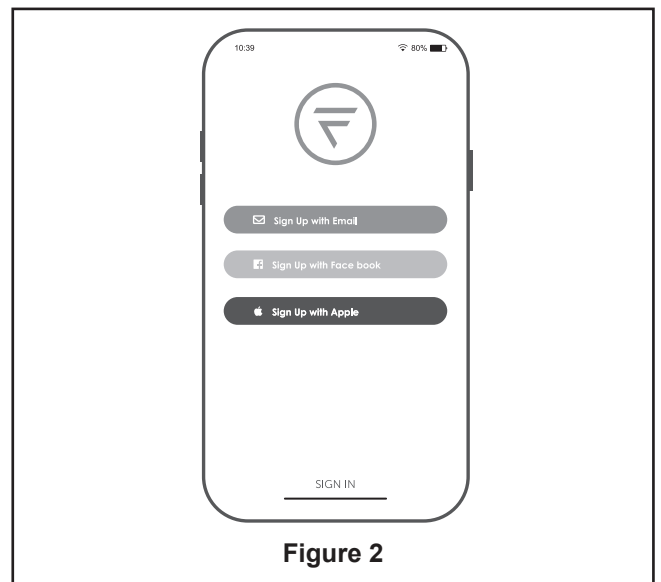

Figure 2
- ☐ 2. Create your account using one of the three options listed. (Figure 2)